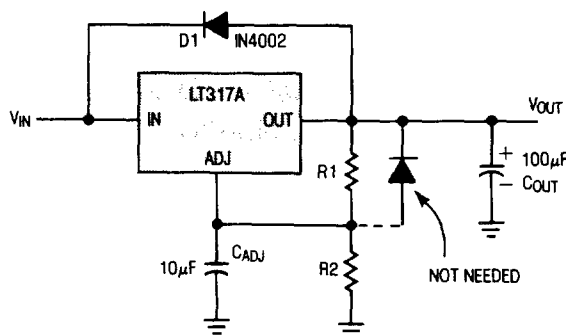

Figure 2
**Protection Diodes:** The LT117A/317A do not require a protection diode from the adjustment terminal to the output (see Figure 2). Improved internal circuitry
If a very large output capacitor is used, such as a 100μF shown in Figure 2, the regulator could be damaged or destroyed if the input is accidentally shorted to ground or crowbarred. This is due to the output capacitor discharging into the output terminal of the regulator. To prevent damage a diode D1 is recommended to safely discharge the capacitor.